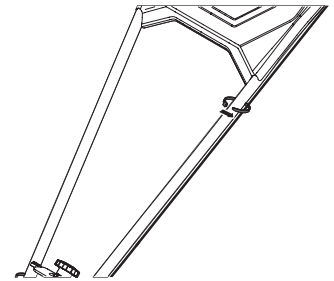

Figure 10
4. Secure the wire on the left handlebar with a cable tie just below the handle panel. See Figure 10.